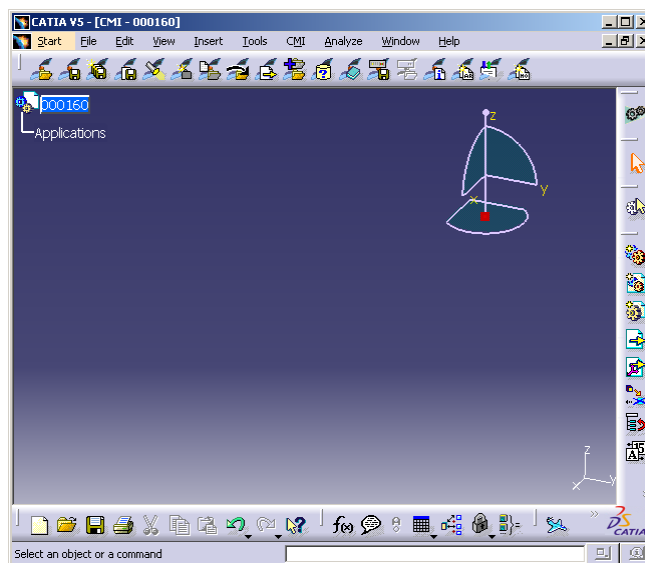
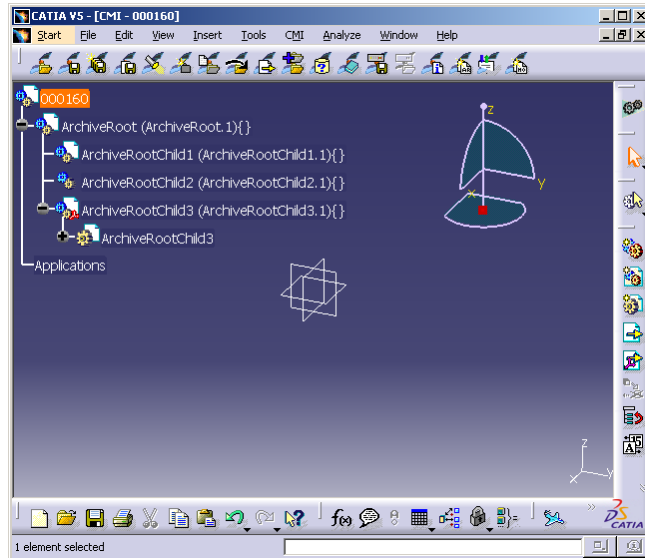

Figure 61: Loaded item 000160 in CATIA V5
Figure 62: CMI Archive root product with three children
Figure 61 shows the loaded product in CATIA V5. Now we add the structure which should be attached as CMI Archive as child items to the item 000160. In our example the three possible types are added under the root item (see Figure 62).
Select the root product which should be attached as CMI Archive (see “ArchiveRoot (ArchiveRoot.1)” in Figure 62). The parent object of the selected item must be loaded from CMI. The CMI Archive will be attached to an existing CMI structure by using the *Attach Archive* CMI toolbar button.